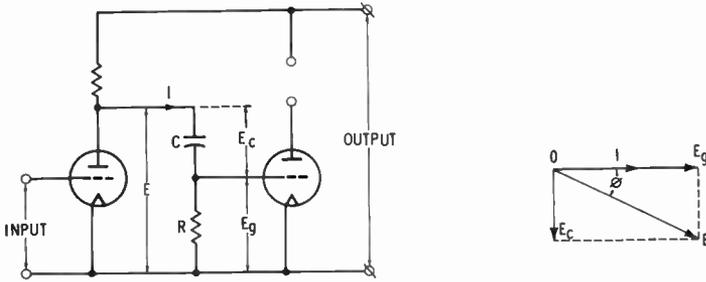

Fig. 15. Interstage coupling with vector diagram.
Fig. 15 depicts ordinary resistance-capacitance (RC) coupling. Assuming that the alternating component of the voltage developed across the plate resistance is  $E$  volts, this potential difference is set
Now, since  $R$  and  $C$  are in series, there is only one current and so the current vector of Fig. 15 is drawn in position first, this being denoted by  $O-I$  of an arbitrary length.
In the circuit diagram of Fig. 15 the voltage required to drive the current through the capacitor is denoted by  $E_c$  and that through the grid leak by  $E_g$ . What is required is the mathematical ratio of  $E_g$  to  $E$ .
The current passed by the capacitor leads the voltage across it by a quarter of a cycle, and the voltage  $E_c$  will therefore lag the current by this amount. Hence the vector  $O-E_c$  is drawn at right angles to  $O-I$  in the position shown in Fig. 15, and its length is made proportional to the reactance of the capacitor to the same scale as  $O-E_g$ .